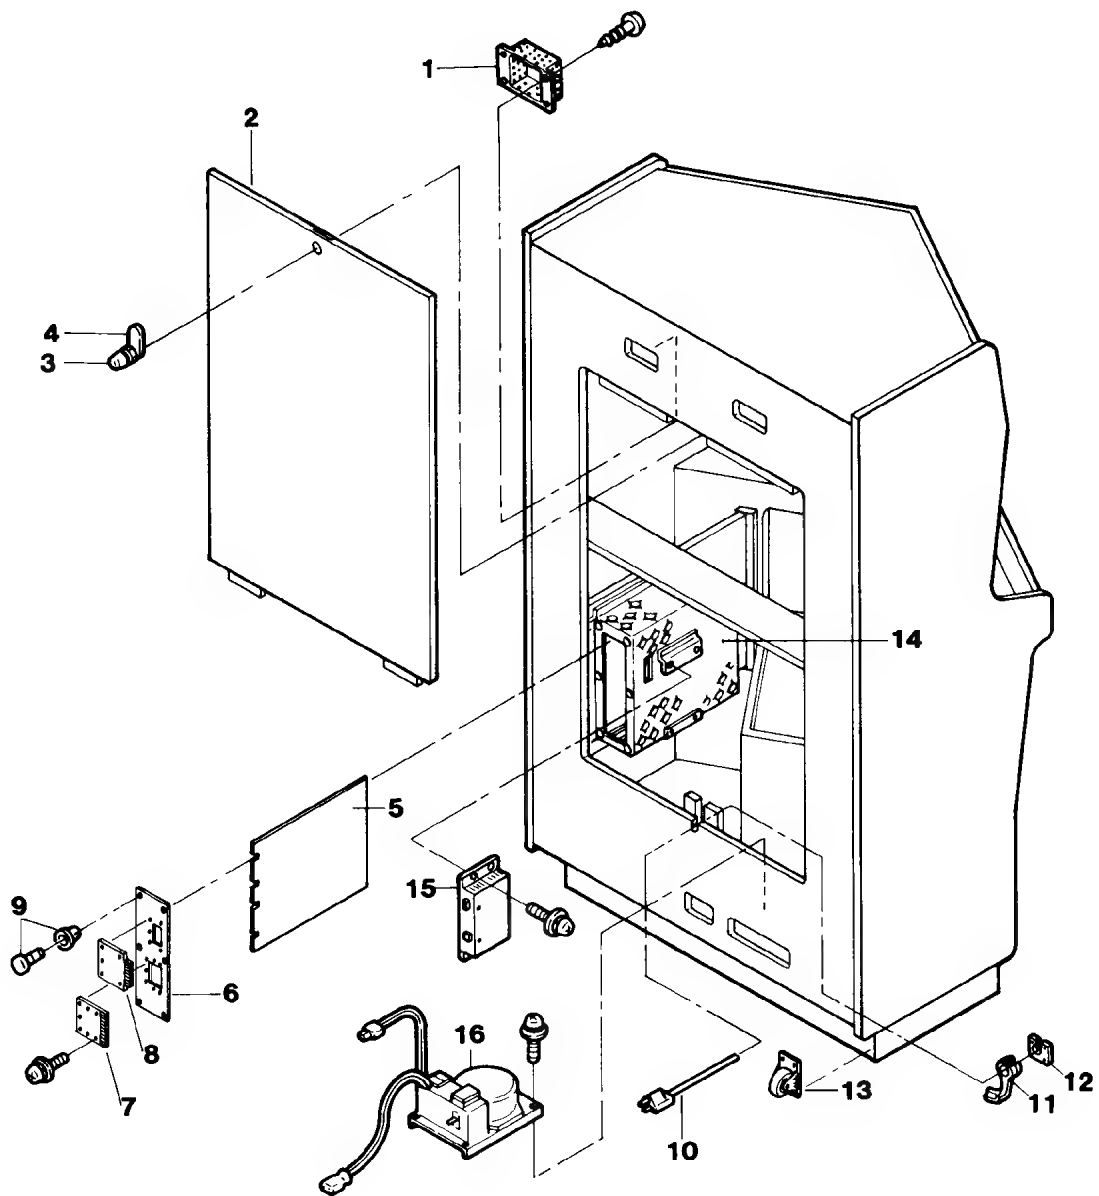

Fig. 10
A. Body Parts, continued — See Figure 10